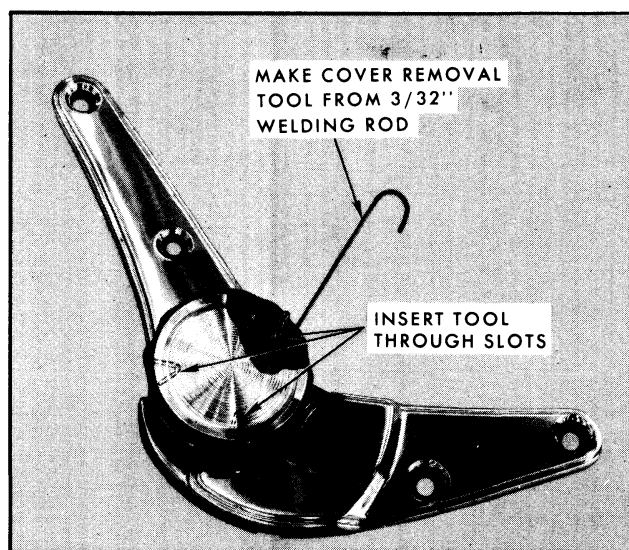
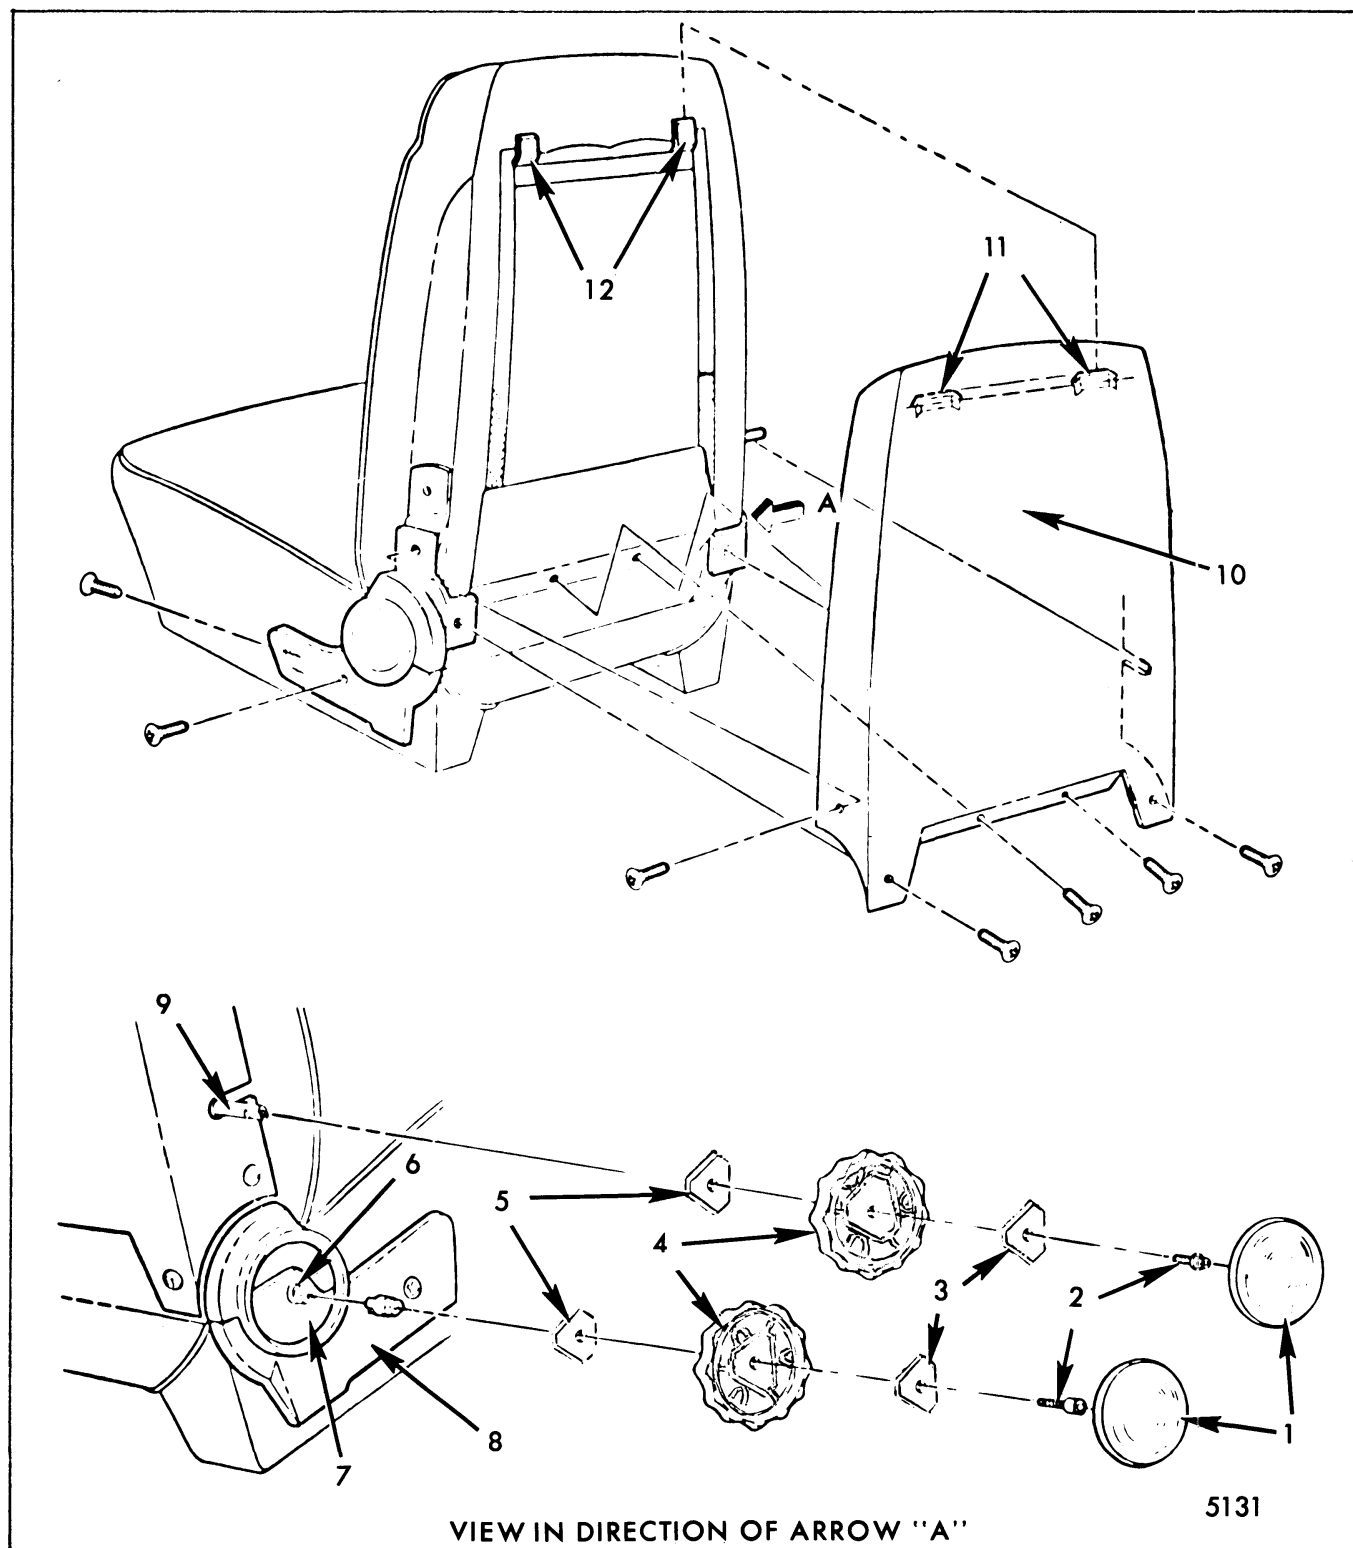

Fig. 9-38-Salon and Custom Comfort Bucket Seat Reclining Hinge Control Knob
Fig. 9-40-Custom Comfort Bucket Seat Back Panel, Control Knobs and Finishing Covers (Drivers Side Shown)
- a. Using 3/32" welding rod, bend as shown in Figure 9-38 and insert hooked end of rod behind knob and through one of the slots in knob inner surface; then, pull rod to disengage knob cover from knob.
- b. With knob cover removed, remove 3/16 inch hex internal drive screw (Fig. 9-38) securing knob to control rod and remove outer plate, knob and inner plate (Fig. 9-38).
1. Remove exposed screws (Fig. 9-40) securing lower portion of seat back finishing panel.
2. Lift panel upward to disengage upper portion of panel from hanger brackets (Fig. 9-40) and remove finishing panel from seat back.
1. Using a piece of 3/32" welding rod approximately six inches long, form rod as shown in Figure 9-38.
2. Insert hooked end of rod behind control knob and through one of the slots in the knob inner surface (Fig. 9-38); then, pull rod to disengage knob cover from knob.
3. With control knob cover removed, remove 3/16 inch hex internal drive screw (Fig. 9-38) securing knob to rod or shaft; then, remove outer plate, control knob and inner plate (Fig. 9-40).